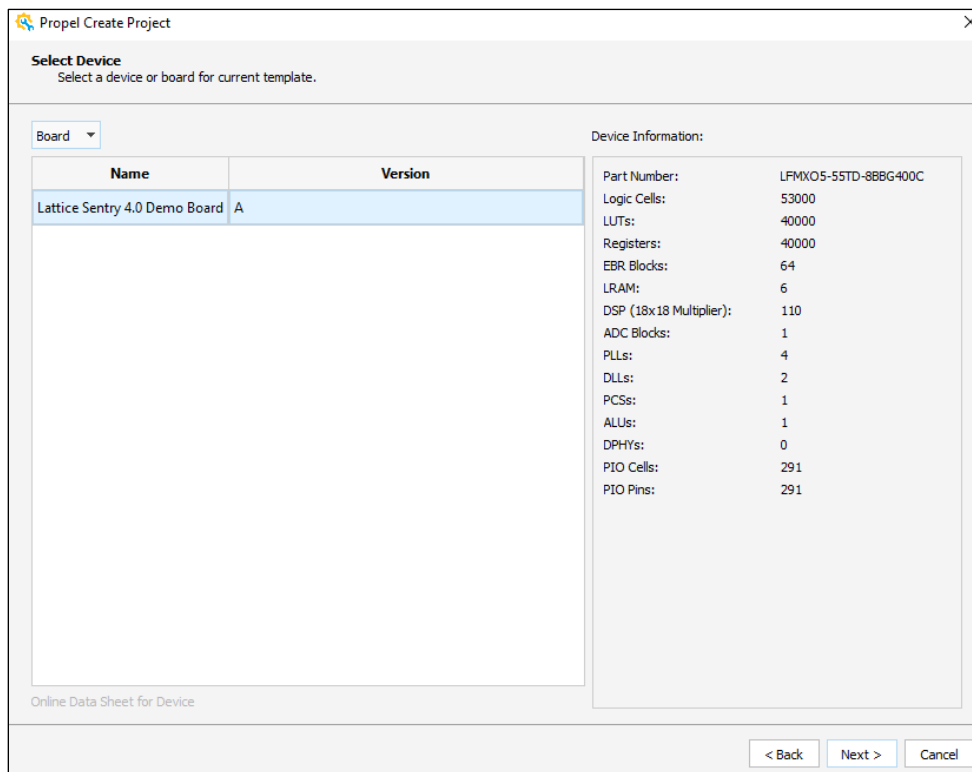

Figure 4.4. Create SoC Project – Select Device
6. Select Lattice Sentry 4.0 Demo Board for **Board**. Then, click **Next** (Figure 4.4).